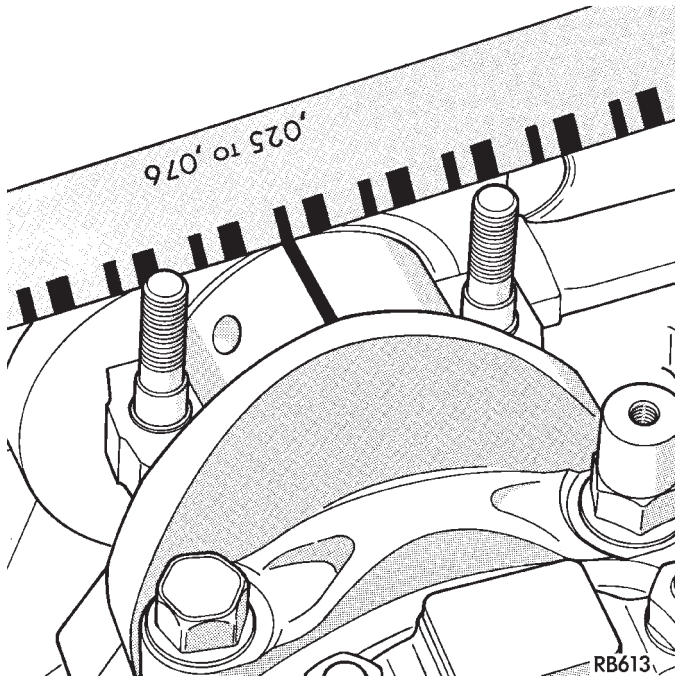

Fig. 16 Checking Connecting Rod Bearing Clearance
(1) Follow procedure specified in the Standard Service Procedures Section for Measuring Main Bearing Clearance and Connecting Rod Bearing Clearance (Fig. 16). Refer to specifications (Fig. 19).